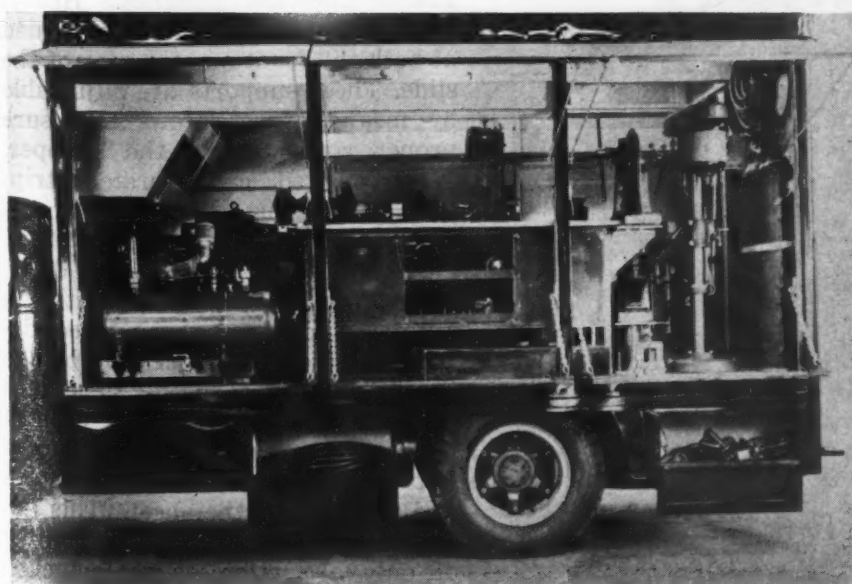

Fig. 1. Portable Truck-mounted Machine Shop Containing All the Equipment Commonly Found in Central Repair Shops
**S**HEETS 40 inches wide by 60 inches long are perforated at speeds up to 360 strokes per minute on a press recently brought out by the E. W. Bliss Co., Brooklyn 32, N. Y. This press, which was built at the Toledo, Ohio, plant of the concern, is shown in Fig. 1.